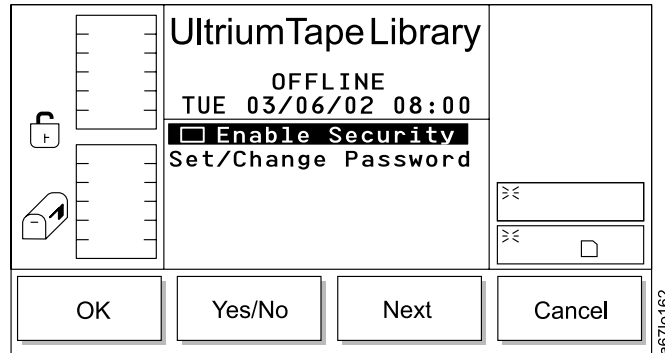

Figure 152. Secure Dialog
- If **Secure** is selected, the Secure Dialog displays (see Figure 152 on page 129).
- If **Cancel** is selected, the Utils Submenu displays (see Figure 152 on page 129).